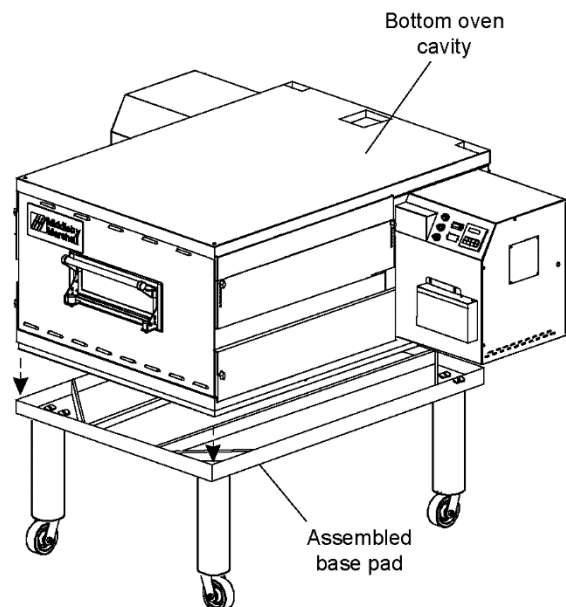

Figure 8. Base Pad Installation
3. Install one caster onto each leg extension, as shown in Figure 8. Use the 3/8"-16 x 1" screws, 3/8" flat washers, and 3/8" lockwashers supplied in the Installation Kit. The locking casters (if equipped) should be installed at the FRONT of the oven. The non-locking casters should be installed at the REAR of the oven.
4. Install the lower oven cavity onto the base pad. See Figure 8.